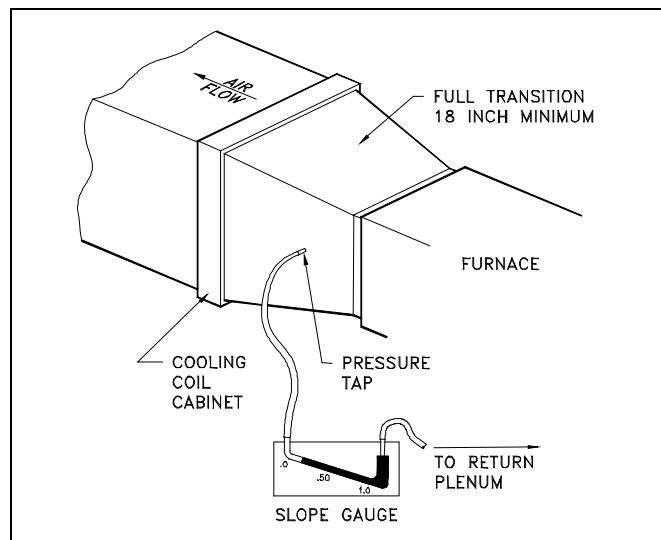

Figure 31. Measuring Duct System Static Pressure.
7. Insert one static pressure tap into supply air transition duct between furnace and cooling coil or in the supply air plenum for heating only systems. Connect this pressure tap to positive pressure side of slope gauge. See Figure 31.
8. Insert other static pressure tap in return air plenum. Connect this pressure tap to negative pressure side of slope gauge. See Figure 31.